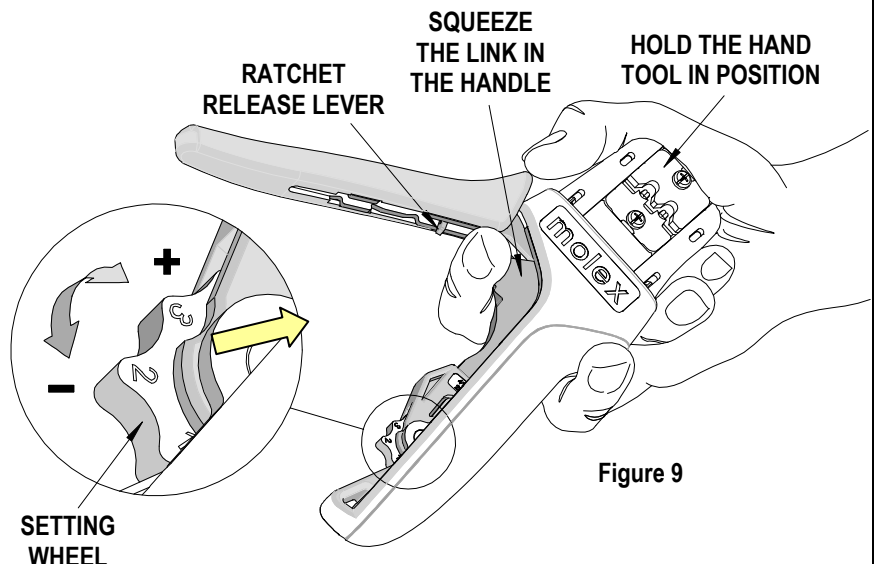

Figure 9
How to Adjust Tool Preload (See Figure 9)
1. Hold the hand tool in the palm of your hand as shown in Figure 9. Using the index finger squeeze the link towards the top of the hand tool frame. This will release the preload adjustment wheel.
2. Rotate the setting wheel counter-clockwise (CCW) to increase handle force. The numbers will display higher. To decrease handle force rotate the setting wheel clockwise (CW).